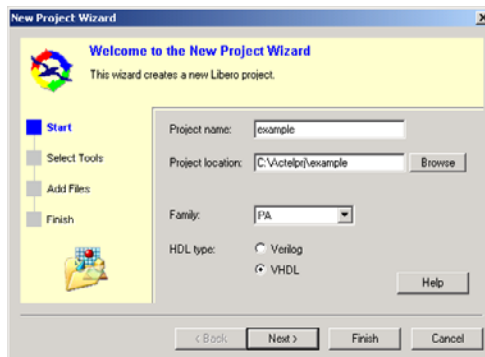

Figure 2-1. New Project Wizard in Libero IDE
2. From the **File** menu, select **New Project**. This displays the New Project Wizard, as shown in Figure 2-1.